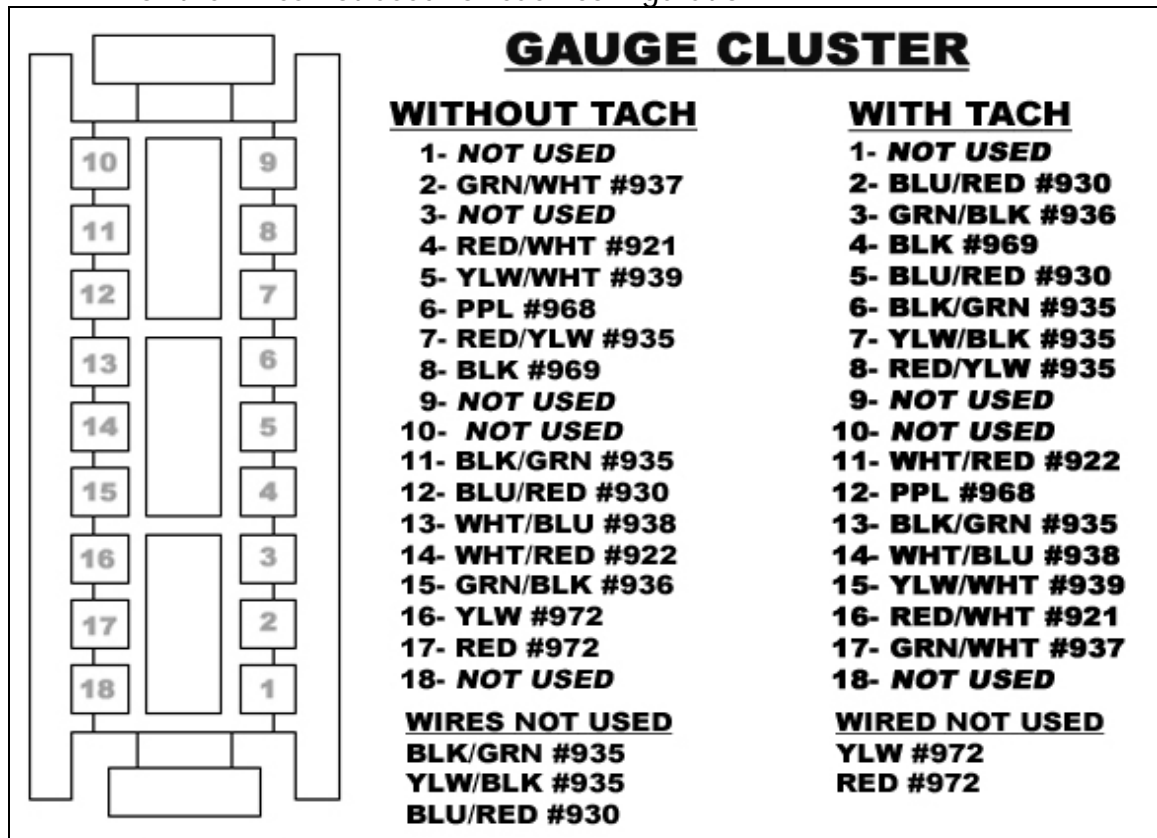

Figure 7-18 Gauge Cluster Pin Out
7.10.2 Use **Figure 7-18** to correctly pin out your gauge cluster connector. Some wires share the same number and or color. Not all wires will be used. No matter which of the 2 factory clusters you have, with a tachometer and without, you will have unused wires. These wires will either be 2 UNPROTECTED constant battery power wires or 3 switched power wires. These unused wires will need to be taped and properly stowed away to prevent a short. Use male and female bullet terminals from the parts kit to connect the Red #972 and Yellow #972 wires together for applications where a factory tach is being used. This is a step that must not be skipped. See **Figure 7-18** for the wires not used for each configuration.